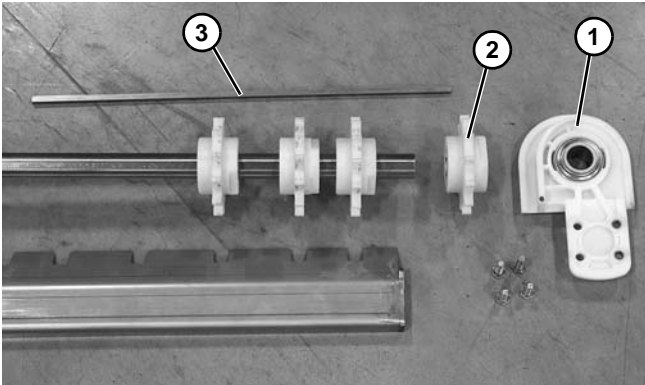

Figure 54
- Slide the headplate with bearing (**Figure 54, item 1**) off the shaft. Replace bearing if worn. Refer to “Bearing Replacement” on page 26.
- Slide off the drive sprocket (**Figure 54, item 2**).
- Remove the shaft key (**Figure 54, item 3**).